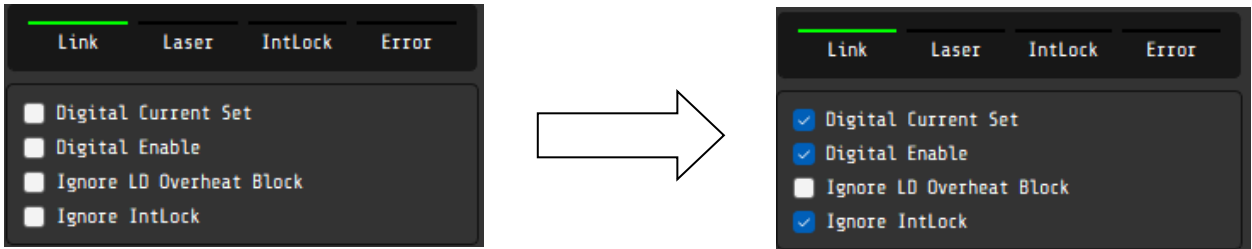

Figure 9. MAIMAN BENCHSOFT Device state flags panel
- After parameters are set properly, please activate Device state flags panel which is shown below in Figure 9. In order to activate, tick the checkboxes to “Digital Current Set”; “Digital Enable” and “Ignore IntLock”.